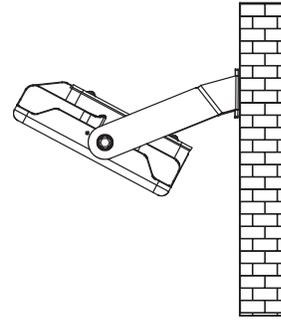

Fig. 3.2
3. Mount the fixture to the wall/pole and secure it in place (Fig. 3.2).